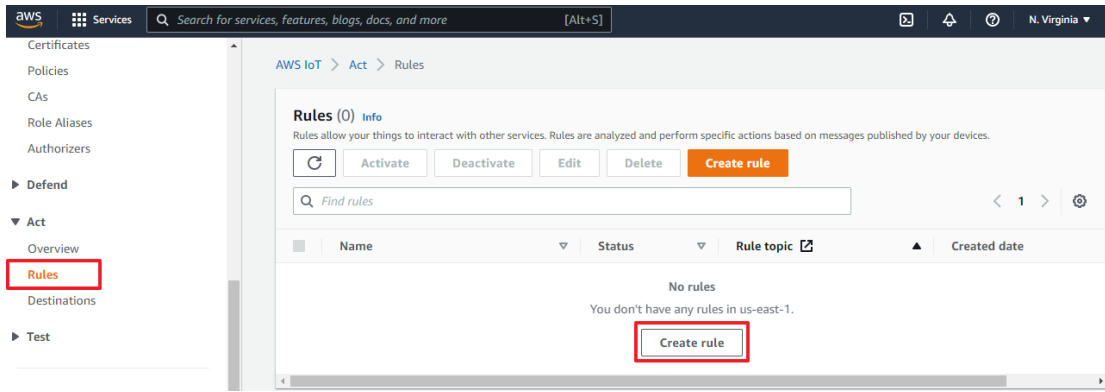

Figure 4-134 Ready to create Rule
- Within the IoT Core portal, expand the "Act" section on the left-hand side of the dashboard, and click on "Rules" to proceed with creating a rule as instructed (as shown in Figure 4-134).